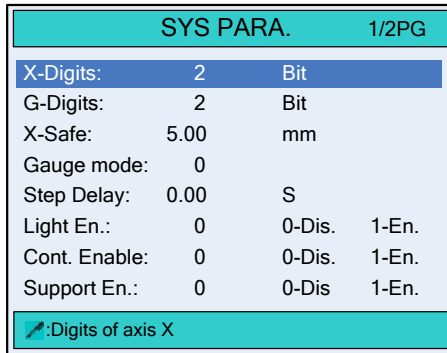

Figure 3-5 The first page of the **SYS PARA.**
On the **SYS PARA.** page, move the cursor to parameter **1.SYSTEM PARA** (or press the number key 1), and press  to enter the first page of the **SYS PARA.**, as shown in Figure 3-5.